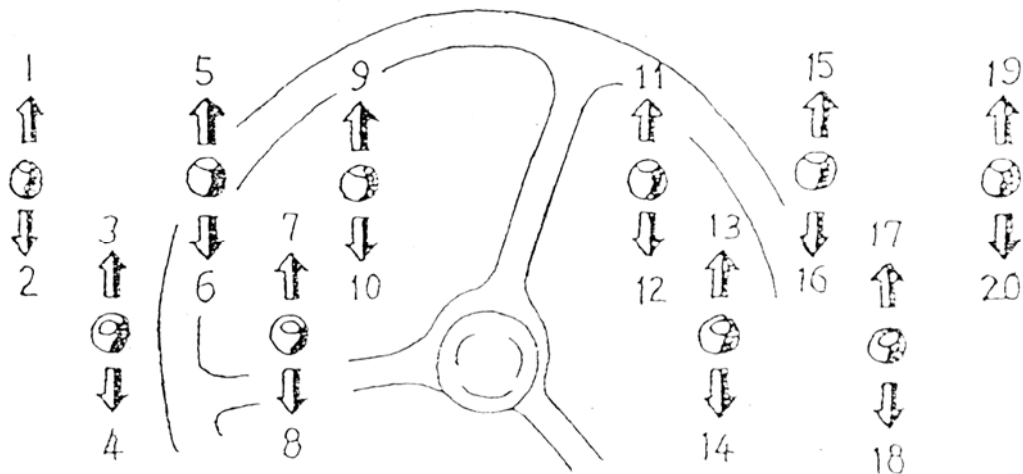

Fig.19
a) If turn swing saddle positions from 3 to 1 or 2, operare controlling levers (Fig 19 NO.2 14/19) to contract swing cylinder completely.
b) If turn swing saddle positions from 3 to 4 or 6, operare controlling levers (Fig 19 No 1 13 20) to extend swing cylinder completely.